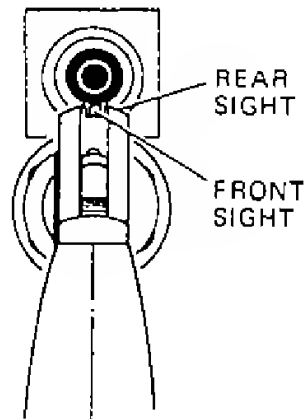

FIGURE 6—AIMING
2. Take aim by aligning target with front and rear sights (See Figure 6).